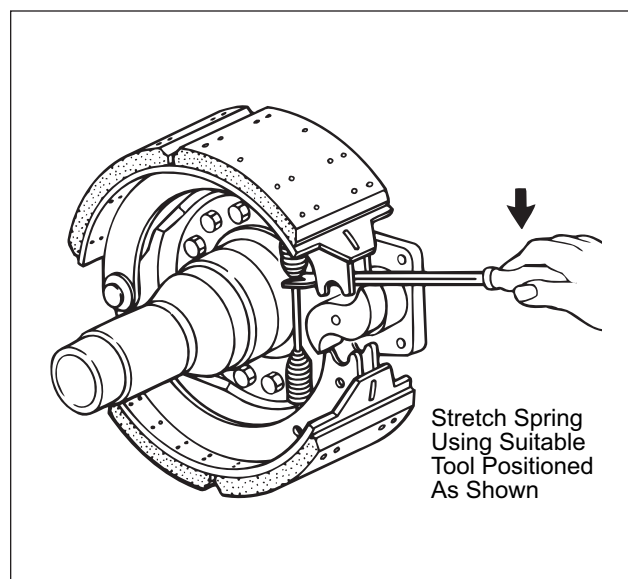

Figure 20. Return Spring Removal
6. To remove return spring, position a lever or suitable tool with a notch to engage spring rod. Refer to Figure 20. Apply downward force to stretch spring, allowing removal of upper spring hook. Remove and discard spring.